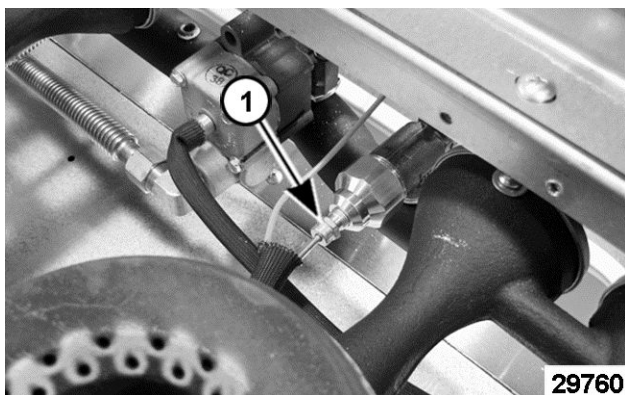

Fig. 64
6. Disconnect thermocouple (1, Fig. 64) from safety valve.